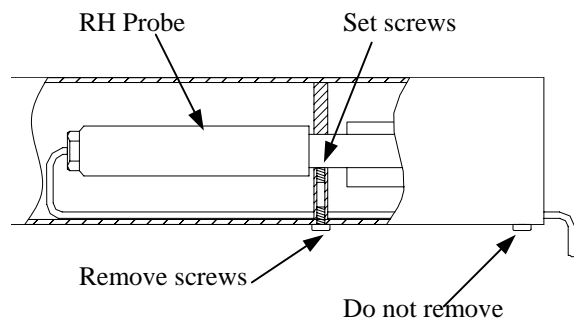

Figure 5
3. Remove the three screws towards the middle of the RH Shield to expose three set screws. Do not remove the three screws at the end of the RH Shield, these hold the probe support. (See Figure 5).